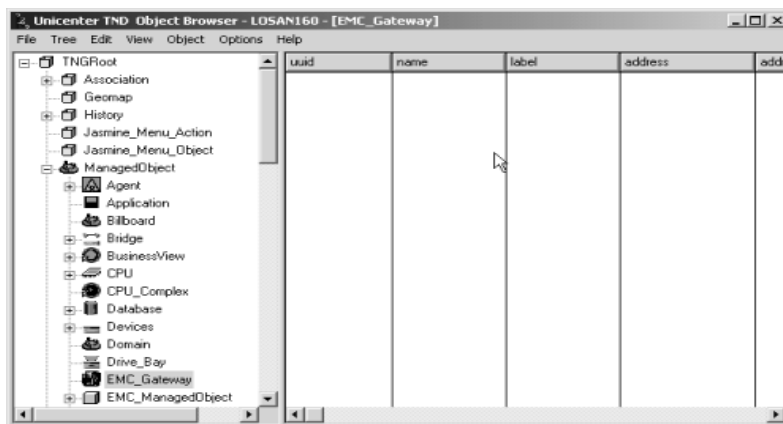

Figure 6-15 Unicenter TND Object Browser Console
- After the Object Browser application loads, expand the tree root **TNGRoot**, **ManagedObjects** node, and select node **EMC_Gateway** (Figure 6-15).